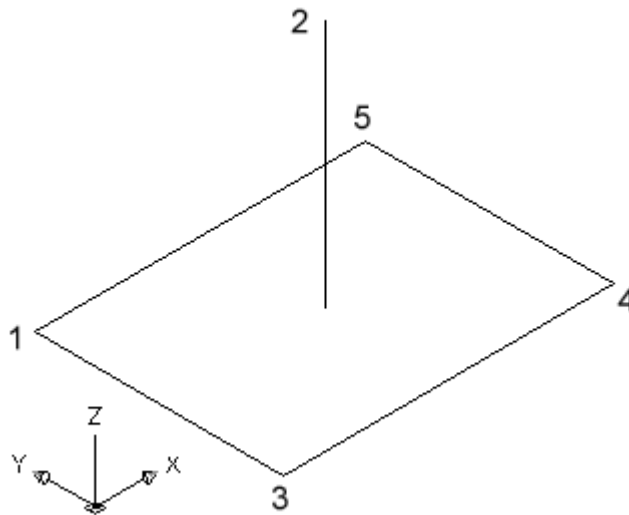

Figure 2.2.2
**Note:** The object we're about to create is made up of 5 surfaces - the bottom and four triangular sides. In the first part of the command we nominate all the endpoints of the vertices. Make use of snap modes. Refer to **Figure 2.2.2**.